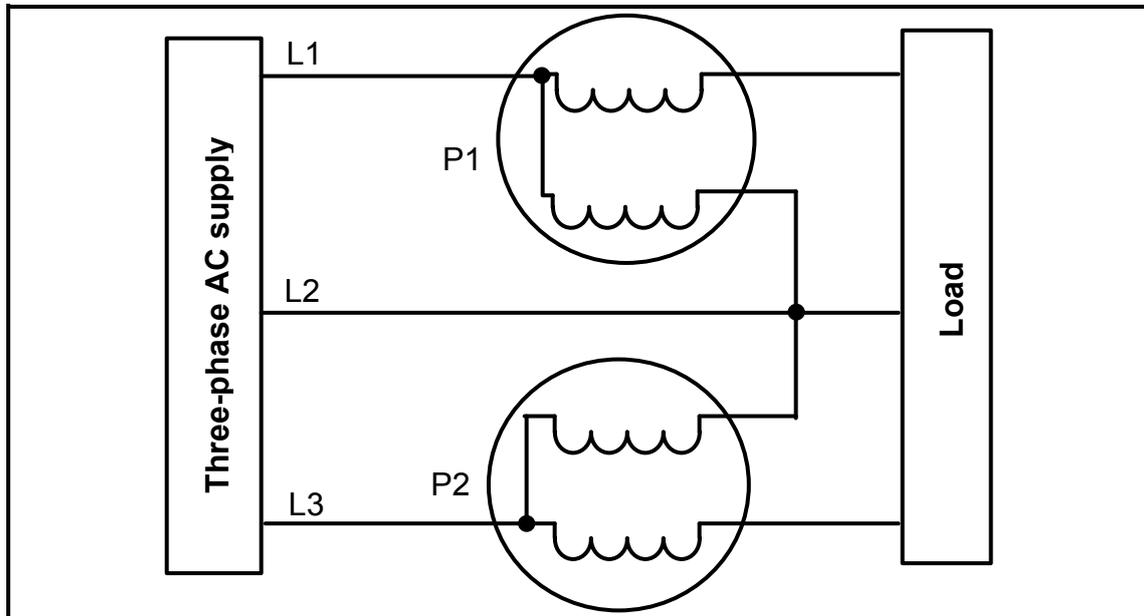

FIGURE 2.1: TWO-WATTMETER METHOD
2.6 Refer to FIGURE 2.1 and answer the questions that follow.